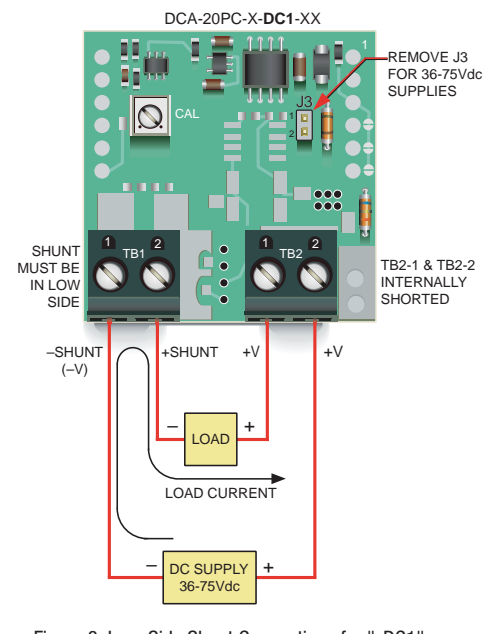

Figure 3. Low-Side Shunt Connections for "-DC1" Models Modified for 36-75Vdc Non-Isolated Power (See Technical Note 6)
**6. Operation With 36 to 75Vdc Power:** As shipped, all ‘-DC1’ models’ rated operating supply range is +5 to +40Vdc. However, ‘-DC1’ models can be user configured for 36 to 75Vdc operation by removing (opening) jumper J3. Please note that this modification can only be performed on ‘-DC1’ power models. Also, all ‘-DC1’ models – including those that have been modified for 36-75Vdc operation – can only be connected in low-side, grounded-shunt applications. See Figure 3 for